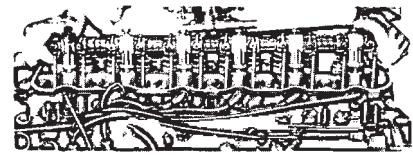

FIG. 11—Valve Rocker Arm Shaft Removal
3. Remove the rocker arm shaft support bolts by loosening the bolts two turns at a time in sequence. Remove the rocker arm shaft assembly (Fig. 11). Remove the valve push rods. Make sure the push rods are identified before removal so they can be returned to the same location when they are installed.